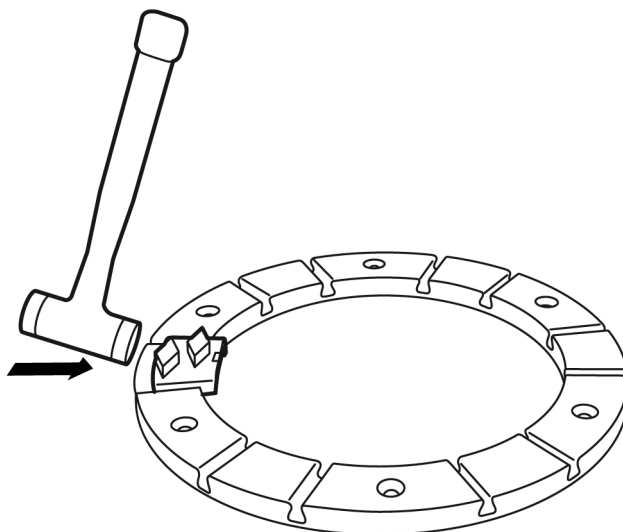

Figure 4-4. Removing grinding tools
1. Remove the grinding tool by giving it a few light taps with a rubber hammer so the locking mechanism releases, see Figure 4-4, page 17. Then draw the tool up out of the guide slot.